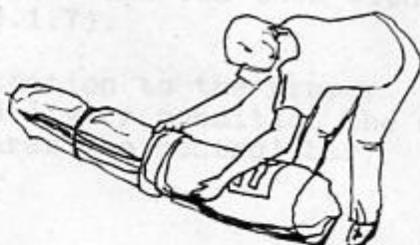

Fig. 3.1.2.
2. Undo the cord securing the package. Remove the bag 2 metres long (Fig. 3.1.2).